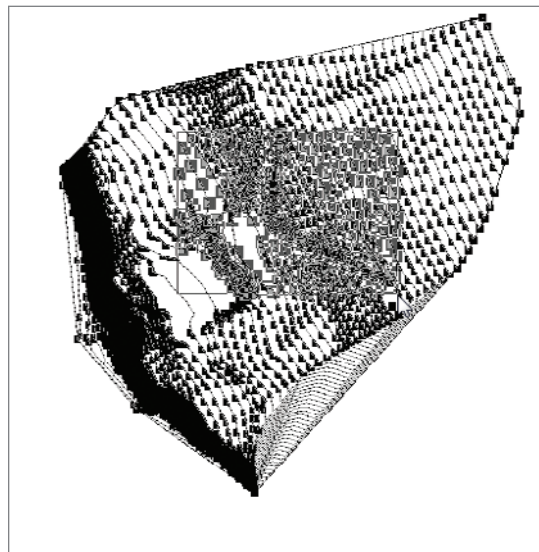

FIGURE 18.28 Selecting a range of points
15. Select a window around the center of the site (this will select a bunch of points), as shown in Figure 18.28.